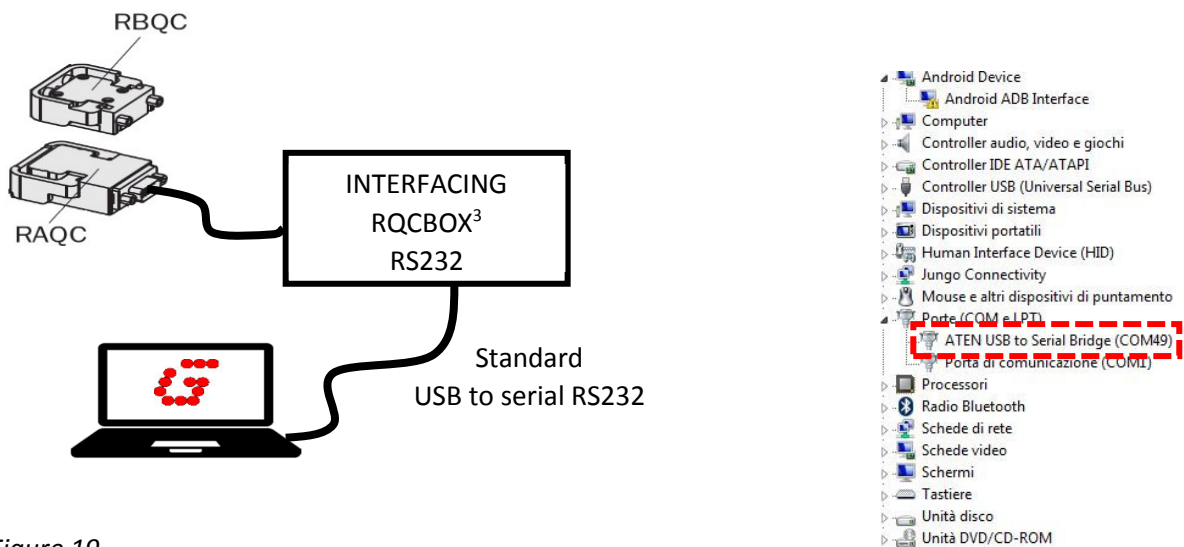

Figure 19
- Connect your Personal Computer with the RQCBX and RAQC and check the RS232 converter recognition as shown in the image below (Figure19).The COM port can be different.